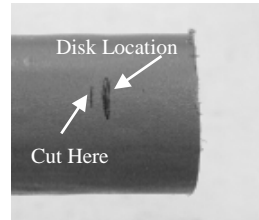

Figure 3
- 1) **Locate the 1st disc by inserting small ruler or wire.** Mark location on jacket surface. **Cut** cable .125" behind disc using hacksaw (Figure 3). Ensure that cable is straight for at least 10" from the end. (Tools required: Small Ruler or Wire and Hacksaw)